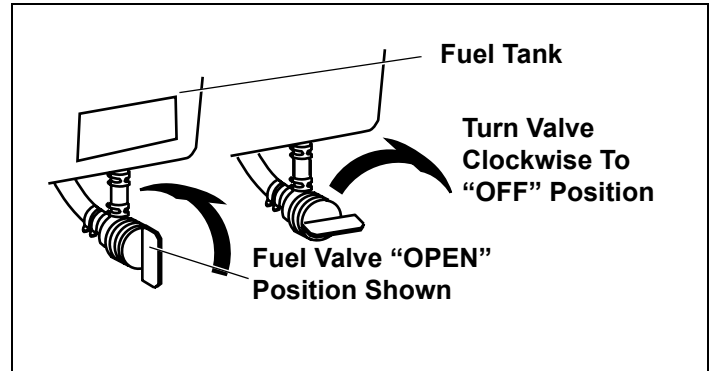

Figure 19. Fuel Valve Positions
- Be sure fuel valve, if present (see equipment manufacturer’s instructions) is open and all switches are on. See Figure 19.